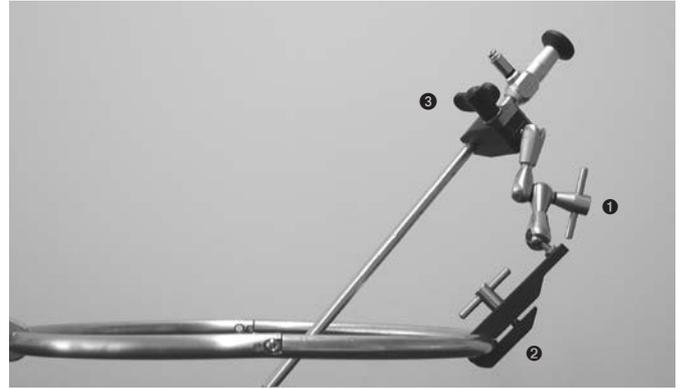

Figure 1
- To loosen the joint arm, turn the central locking handle ❶ (see figure 1) counter-clockwise as far as it will go.
- Secure the clamp ❷ (see figure 1) to the SynFrame retaining ring, keeping the swivel arm outside the ring. This keeps the retaining arm outside the operating field.
- Insert and secure the optic in the corresponding 10.0 or 4.0 mm jaw on the black clamp ❸ (see figure 1) of the holder. Ensure that
- Position the optic in the desired position over the operating field and secure in this position by tightening the central locking handle ❶ (see figure 1) clockwise.
- Always loosen the central locking handle ❶ (see figure 1) when repositioning the optic. The optic can be damaged (bent) if it is moved without opening the joint arm.